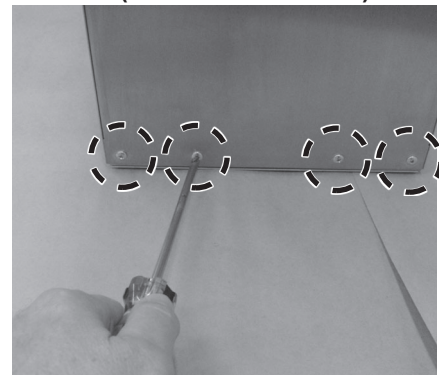

Figure 6-13 Removing Blower Plug and Screws
4. See Figure 6-13. Remove the M4 x 10 Philips screw next to the blower cable receptacle. Unplug the blower cable from the receptacle.
2. See Figure 6-13. Replace the eight screws at the base of the lamphead (4 front and 4 rear). Install the two screws into the cover on both sides of the unicable receptacle. Tighten the screws to 1.35 N•m (12 in-lbs).